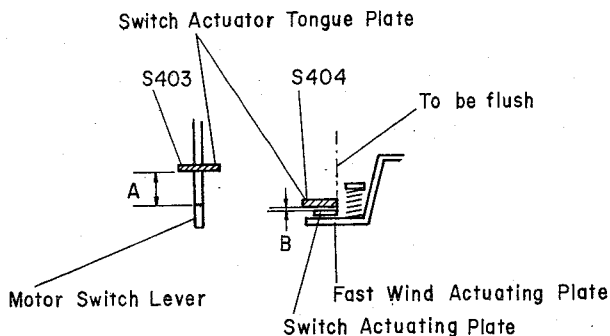
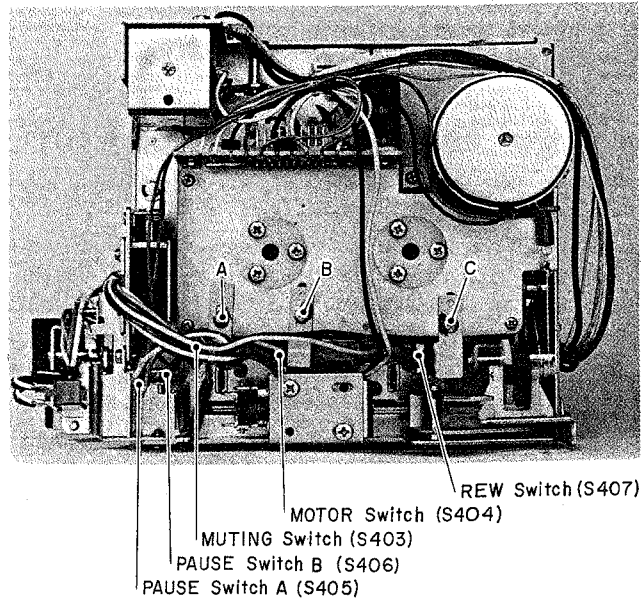
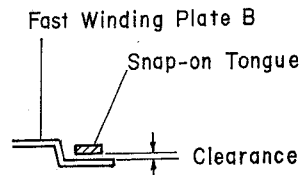

Fig. 5-16 MUTING and MOTOR Switch Adjustments
Fig. 5-15 Leaf and Micro Switch Locations
Fig. 5-17 REW Switch Adjustment
See Fig. 5-15. Check that both Pause Switches are installed equidistantly from the part marked A. Then make sure that these switch actuator tongue plates are kept adequately separated from the bent-portion of the Pause Lever Ass'y, and that these plates does not touch the Timer Base Plate etc.
See Fig. 5-16. The gap (A) on the Muting Switch should be as large as possible and greater than that on the Motor Switch (B) so that, when the PLAY key is depressed, the Motor Switch contacts close before the Muting Switch does. In addition, make sure that bent tip of the Switch Actuating Plate is flush with the tongue plate of Motor Switch. Both switch adjustments can be done by means of screws (A and B in Fig. 5-15).
See Fig. 5-17. Adjust the position of the REW micro switch by means of the screw (C in Fig. 5-15). Give the maximum possible clearance (see illustration) which still allows correct operation of the switch when the REW key is depressed. Maximising this clearance minimises the risk of damage when the REW key is fully (over-) depressed.